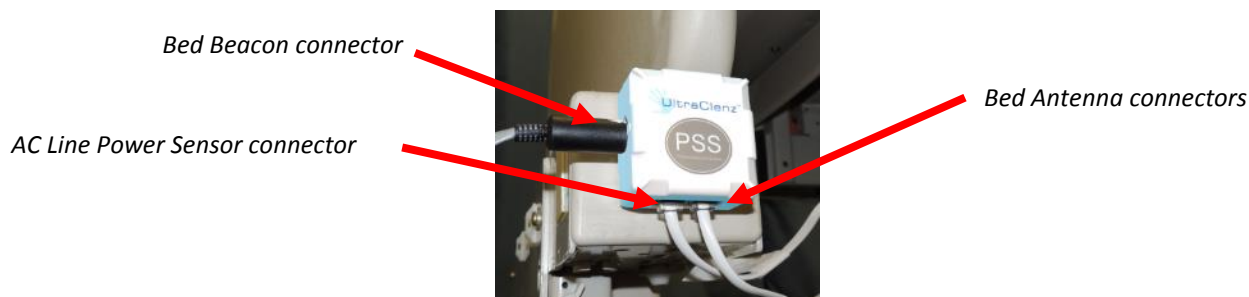

Figure 4. The Dock installed on Bed
The Dock (*see Figure 4*) mounts directly to the patient bed and is connected to the Bed Beacon via a Din and small square connectors. There are two (2) square connectors side by side on the Dock. The AC Line Power Sensor and the Bed Antenna may be connected to either connector. Mount the Dock with the 2 square connectors facing the floor. The Bed Beacon's Din cable connects into the Dock, completing the connection from the Bed Antenna and AC Line Power Sensor to the Bed Beacon.